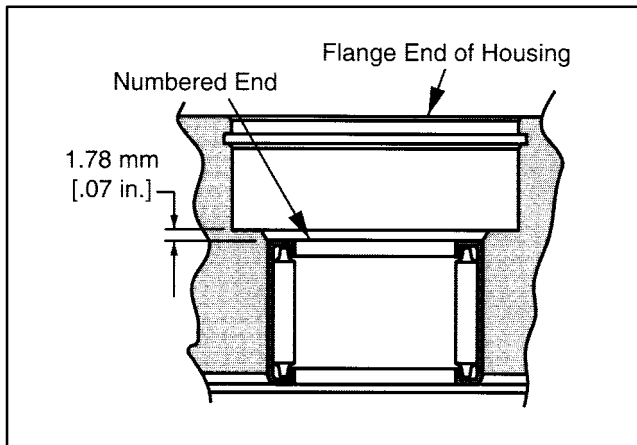
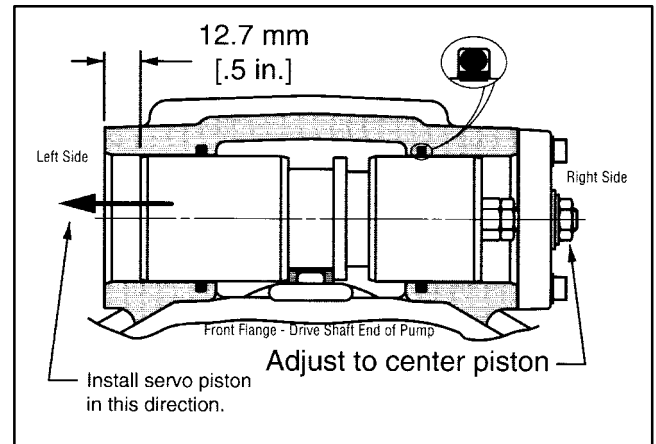

Figure 24
Figure 25
- Check the bearing (57) (press fit) in housing (58). If needles remain in cage, move freely, and setting at the dimension shown in figure 24, removal not required.
2. If necessary, press new bearing in housing to dimension shown in Figure 24 with the numbered end of bearing outward.
3. Install the two new seal sub-assemblies (49) into the servo piston cavity of housing (58).
4. Screw the cover plate (43) onto the servo piston assembly (41). Install new cover plate gasket (42) in place on housing (58). Install servo piston assembly (41) and cover plate (43) into servo piston bore in right side of housing (as shown in Figure 25). Retain cover plate with four each washers (44) and cap screws (45). Torque cap screws 4.5 to 5.4 Nm [40 to 48 lbf•in.]. To obtain neutral, centering the servo piston assembly is required. Measure in from the left side and set servo piston 12.7 mm [.5 in.] from surface of housing servo bore as shown in Figure 25.